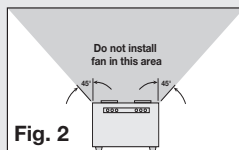

Fig. 2
- Not for use in cooking areas (Fig. 2)